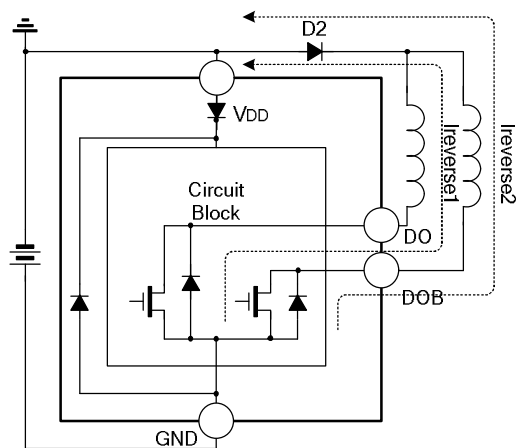

Fig.3 Reverse voltage state
3. SD1579 has built-in reverse protection diodes, so D1 is no need; If you increase the D1 can better protect the chips, as shown in Figure 3; it should be noted that care should to taken to the two coils current when power voltage reversed, if  $2 * V_o * I_{load} > IC's \text{ power consumption}$ , it may cause damage to IC;